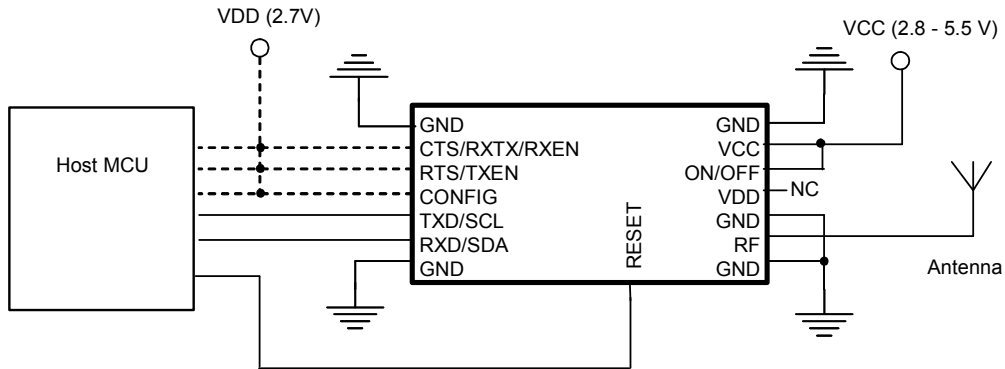

Figure 1. Reset circuit using host MCU
- Control the RESET pin by a separate I/O pin from the MCU (RESET has an internal 10k series resistor and a 100k pull-up to VDD). Set RESET low before ON/OFF is turned low, and keep low until ON/OFF is high again ($VCC - 10\%$). This will ensure proper power-on reset (POR). See Figure 1 below.